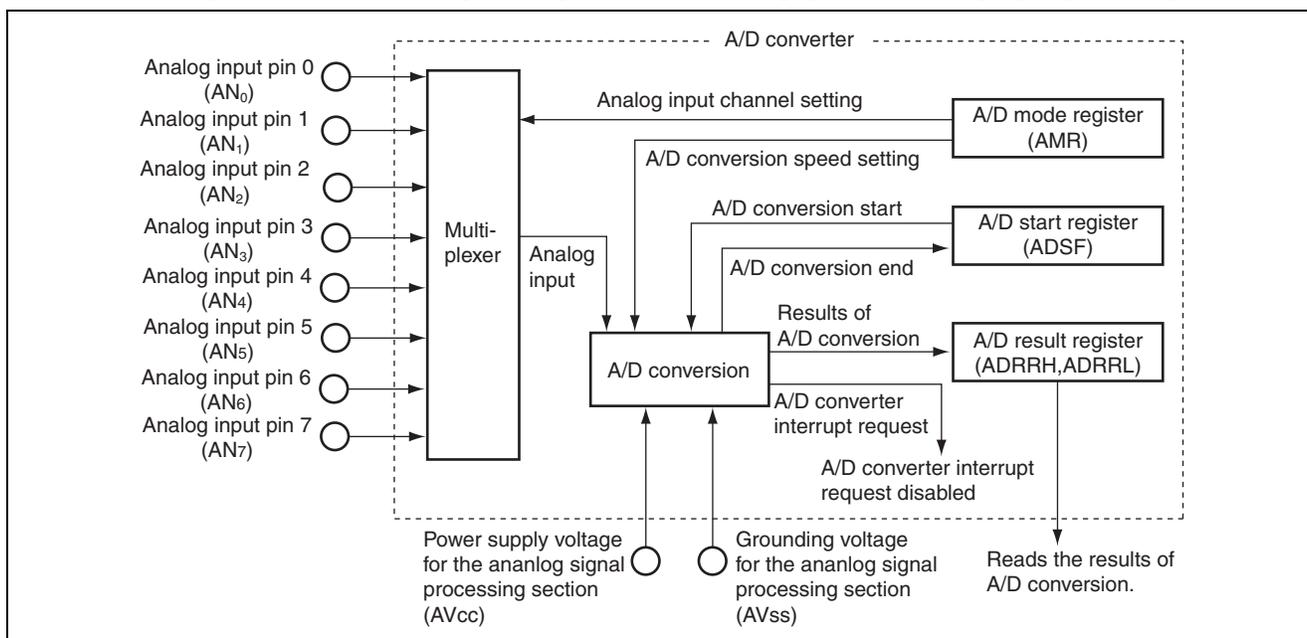

Figure 2.1 Block Diagram of the A/D Converter
- A. Figure 2.1 shows the block diagram of the A/D converter described below.